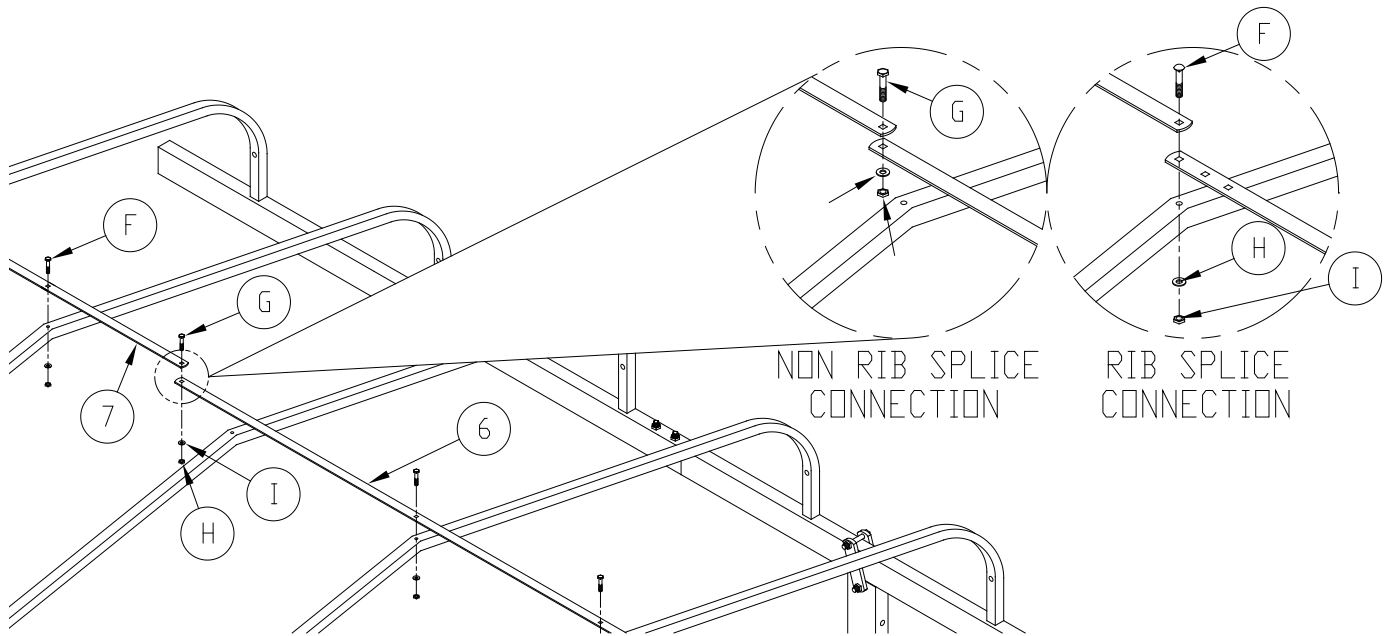

Figure 2-5.
8. Refer to **Figure 2-5**. Assemble two end-center bands (6) and one mid-center band (7) [mid center band used on 18 ft long canopy] on top of the ribs with hardware shown. This will provide a uniform lay of the fabric. At center band, splice connections that do not meet at a rib. Use shorter hardware shown.